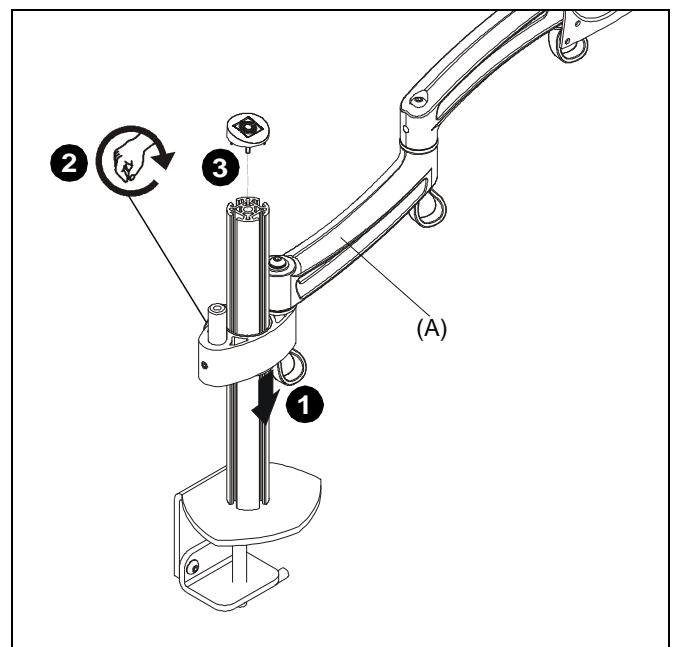

Figure 3
1. Slide KRA212 assembly (A) onto desk mount column. (See Figure 3)
2. Tighten clamp on back of KRA212 assembly (A) to secure at desired height. (See Figure 3)
3. Replace top cap onto column. (See Figure 3)